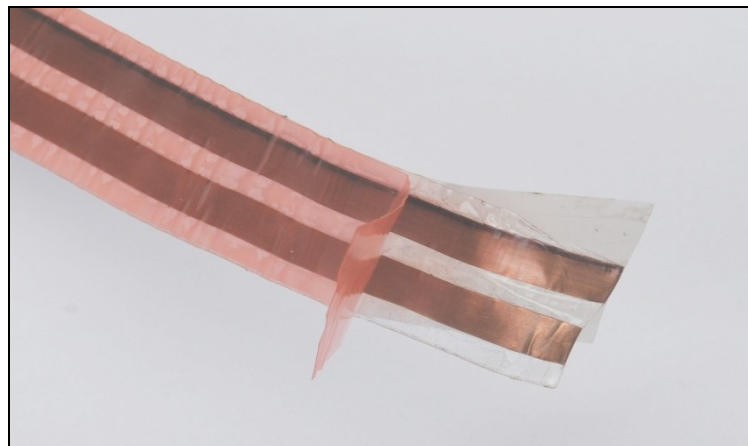

**Figure 2**
- ✓ On a flat and clean work surface, remove the protective film from the backside of the Base Panel (the polycarbonate sheet that has routed out cavities) and orient it as shown in Figure 2. The two thru-holes should be on the right side and the cavities should be facing up. You may wish to use a pen and label the cell locations (1-12) as shown.
**Step 7 — Preparing cells for Base Panel cavities 2,3,4,6,7,8,10,11, and 12 (refer to Figure 2)**
### Step 8 — Preparing cells for Base Panel cavities 1, 5, and 9 (refer to Figure 2)